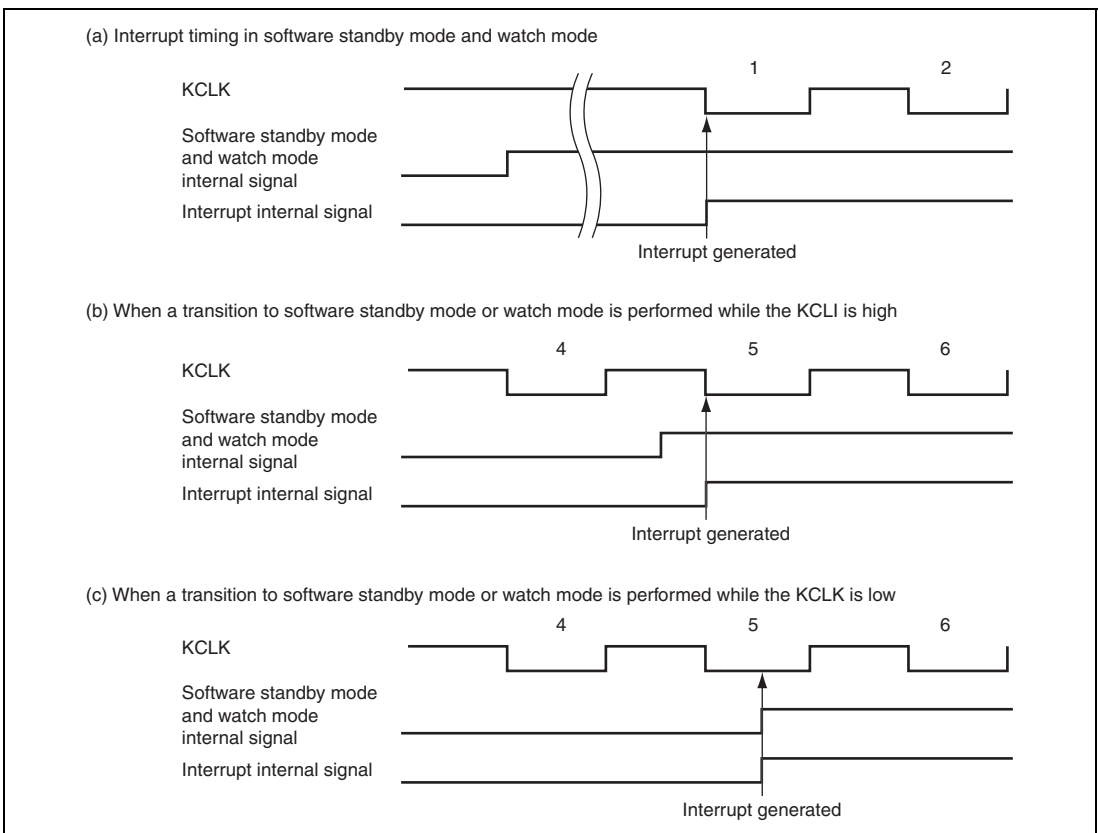

**Figure 18.17 Interrupt Timing in Software Standby Mode and Watch Mode**
Software standby mode and watch mode are cancelled by a first KCLK falling interrupt. In this case, an interrupt is generated at the first KCLK since software standby mode or watch mode has been shifted (figure 18.17).
- When transition to software standby mode or watch mode is made and the mode is canceled by a first KCLK falling interrupt during data transmission, state before performing mode transition is held immediately after canceling the mode. Therefore, initialization by an interrupt handling routine is required. Precautions as (b) and (c) which are shown in figure 18.17 should be applied on interrupt generation.